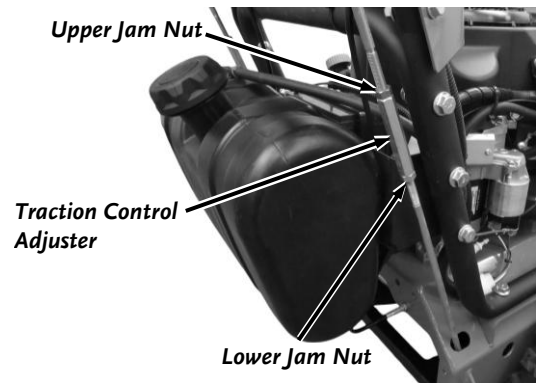

Figure 49
1. Both Right and Left side Adjusters - Hold the center hex section in place using a 1/2" Wrench as you turn both Jam Nuts clockwise to move them away from the center section a couple of turns using a 1/2" Wrench (**Figure 49**).
3. Right side Adjuster only - Tighten the Jam Nuts against the center section (**Figure 49**) counterclockwise to lock the Adjuster at the 4" setting. Right side adjustment is finished.